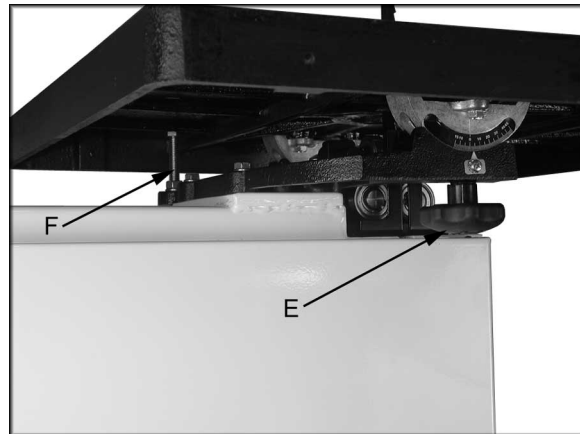

Figure 14
2. Loosen the lock knobs (E, Figure 14).
Note: Table stop bolt (F, Figure 14) must be removed to tilt table to the left.